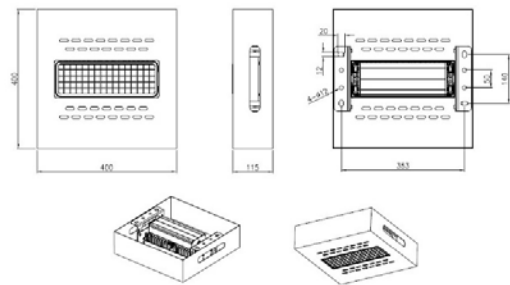

Fig. 1 Surface mount assembly
2. Use measurements of bracket in Fig.1 as a guide and drill mounting holes.